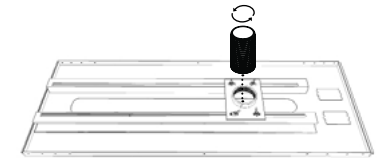

Fig 2
- From the top, thread the Flush Mount Tube through Retaining Collar in Ceiling Tray and through the Ceiling Tile (Fig 2). Tighten the Set Screw.